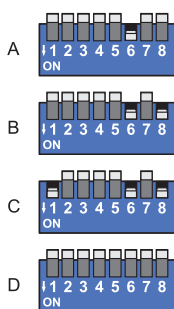

Fig. 5.1.2
2. Place dip-switch 6, then dip-switch 8 and subsequently dip-switch 1 in their **ON** positions, as shown in Figure 5.1.2.